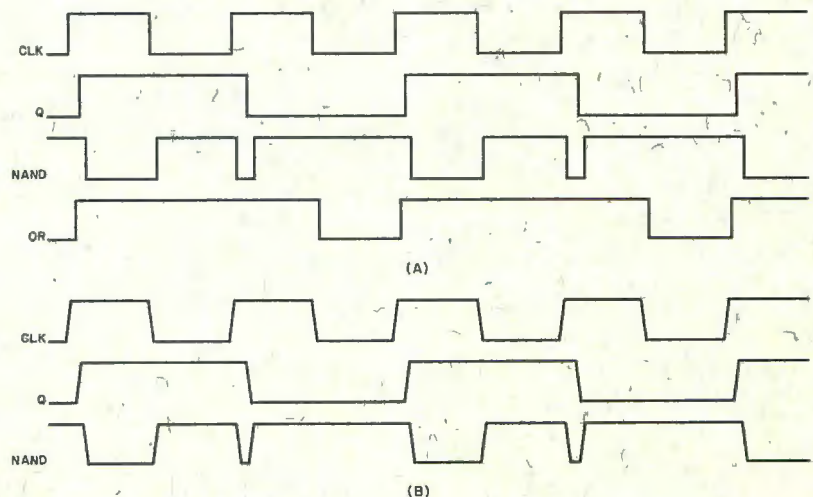

Fig. 5. Expansion of Fig. 4B shows propagation delay.
1. Glitches are caused by unbalanced propagation delays in the signal path. In theory, the glitch of Fig. 5 could be eliminated by adding a delay in the circuit as shown in Fig. 8. This would require that both inverters and flip-flop have “typical” delay specifications.